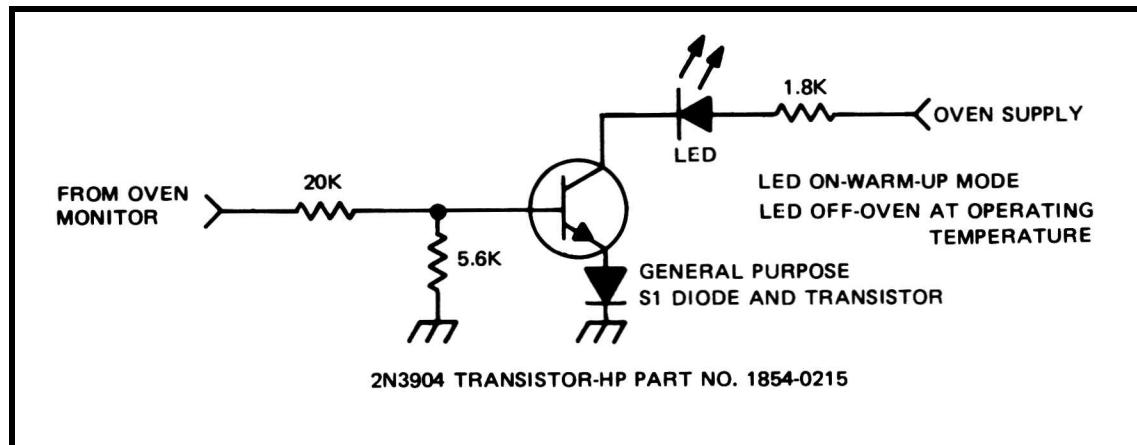

Figure 2-2. Oven Monitor LED Circuit
- 2-19. The OVEN MONITOR OUTPUT is an indicator of oven warm-up. At initial turn-on (warmup) the oven monitor will go to approximately 1.5 volts BELOW the oven power supply voltage. After the oven cuts back, the output will drop to approximately 3.5 volts (at 25°C). The output impedance of this circuit is 10,000 ohms. Figure 2-2 shows an oven monitor LED indicator circuit.